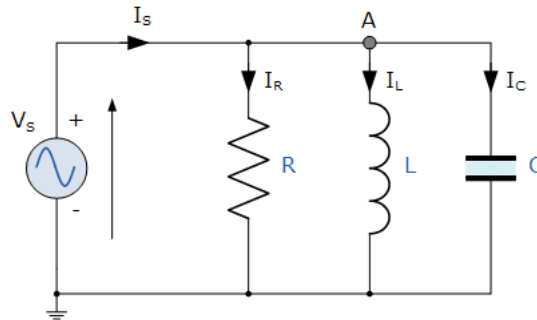

Figure 13: Parallel RLC circuit
- Write a BASIC program which calculate equivalent Impedance (in polar form) of the parallel RLC circuit shown in figure 13.